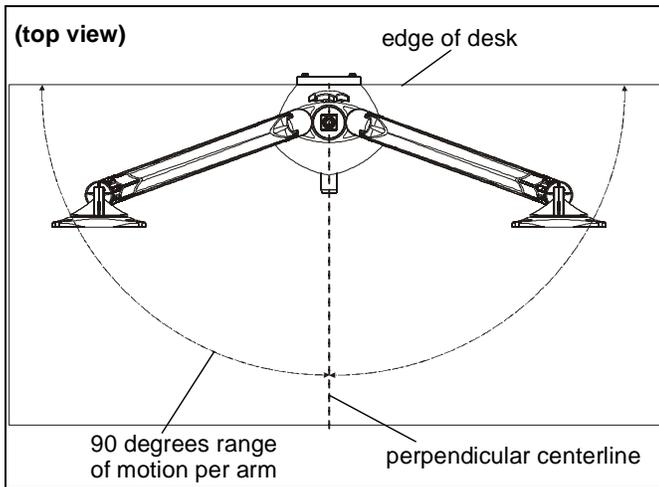

Figure 8
1. Adjust arm angles as desired within a 90 degree range from the edge and a perpendicular centerline of mount. (See Figure 8)